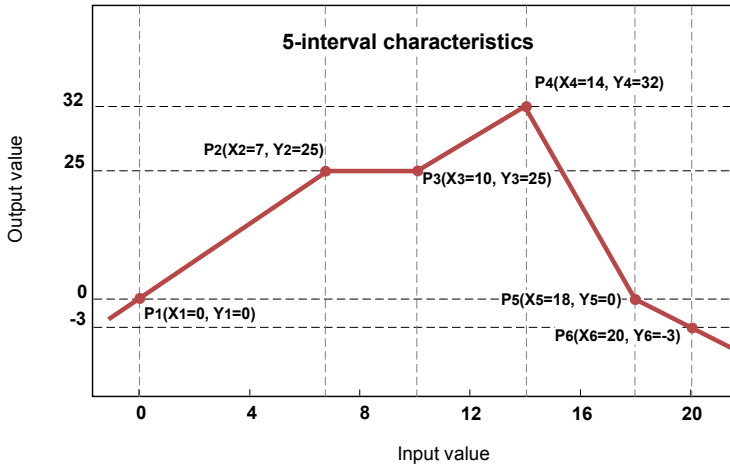

Fig. 7.39. Example of user characteristic
- d) **user char.** - is defined as a set of X-Y points. The number of the points is variable and may be set from 2 to 20 points which create linear segments (see **Fig. 7.39**). After choosing this option, the following parameter appears:
,where '**slope**' and '**offset**' are the coefficients of a segment contained between two points (see **Fig. 7.39**), and **n = 1, 2 ..** is the number of the segment.
The steps to create a user characteristic consisting of 6 points (like in Fig. 7.39):